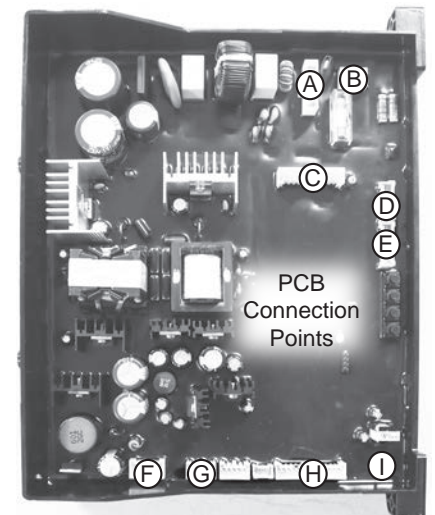

Figure 54 - Disconnecting PCB wiring
- 6 Using Figure 54 as reference, disconnect the wiring harnesses A through I from the PCB.
- 12** Reconnect the wiring harnesses removed in **Steps 6-10**. Reference Figure 54 for placement of each wiring harness.